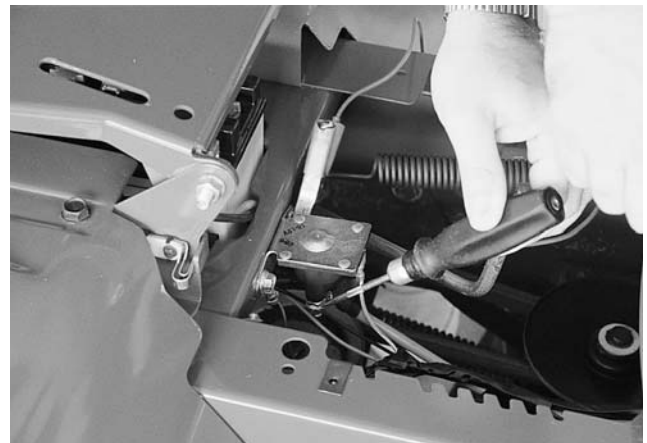

Figure 3-24.
7. Touch probe to terminal on solenoid that goes to starter. Turn ignition key to the start position. If no voltage is present, replace the solenoid. See Figure 3-24.